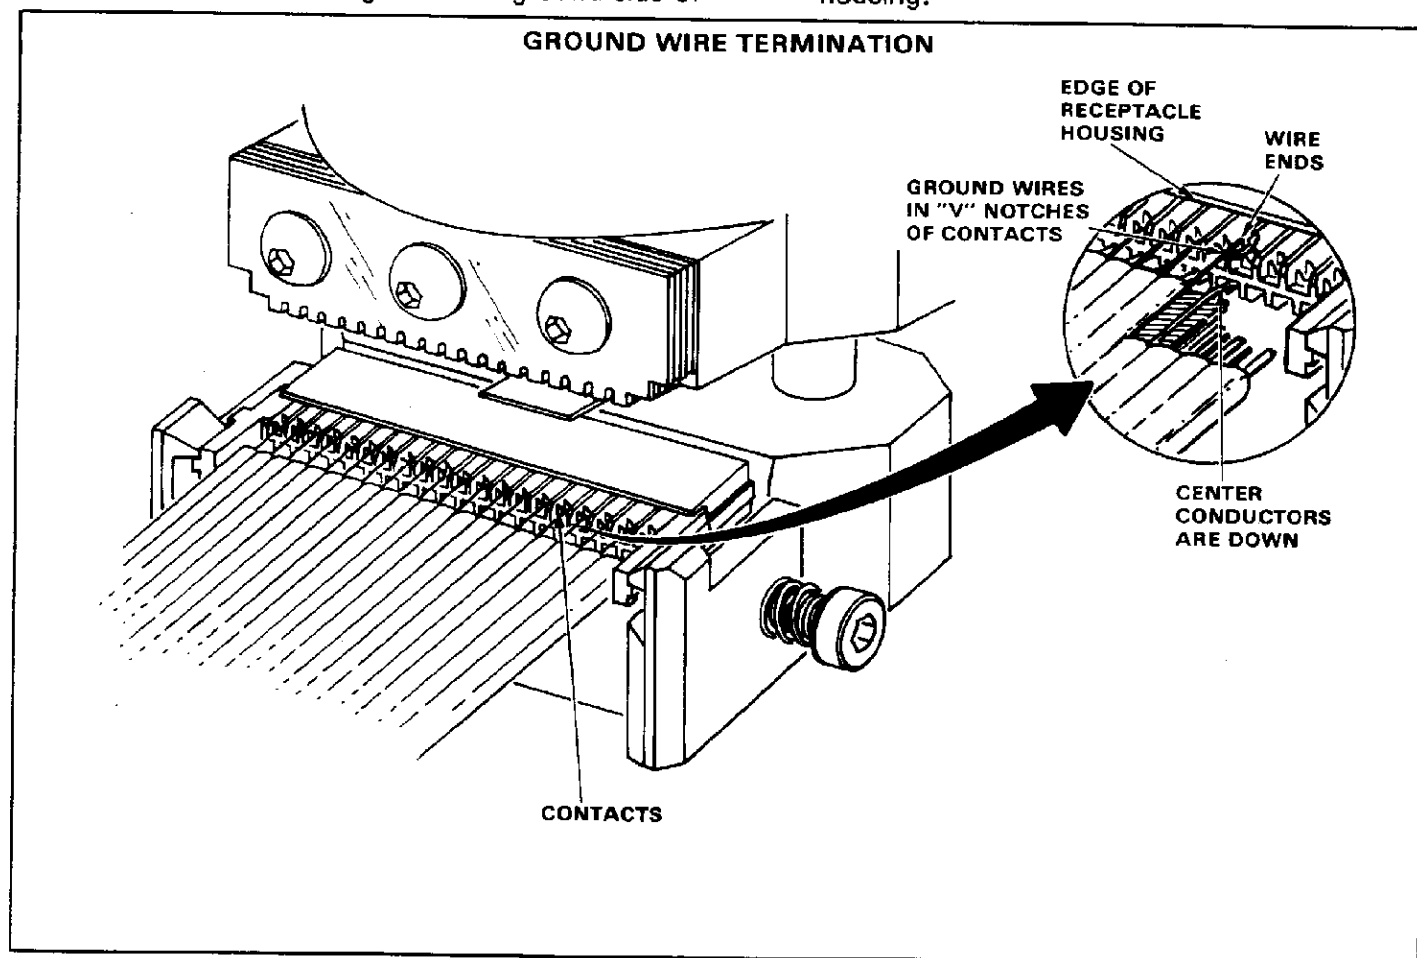

Fig. 5
2. Lay ground wires on contacts as shown in Figure 5. If necessary, use comb to align wires with "V" notches of contacts.
*Center conductors are down, as shown in breakaway view of Figure 5.*
3. Ensure that wires extend through at least *half the distance* between contacts and housing. See Figure 5.